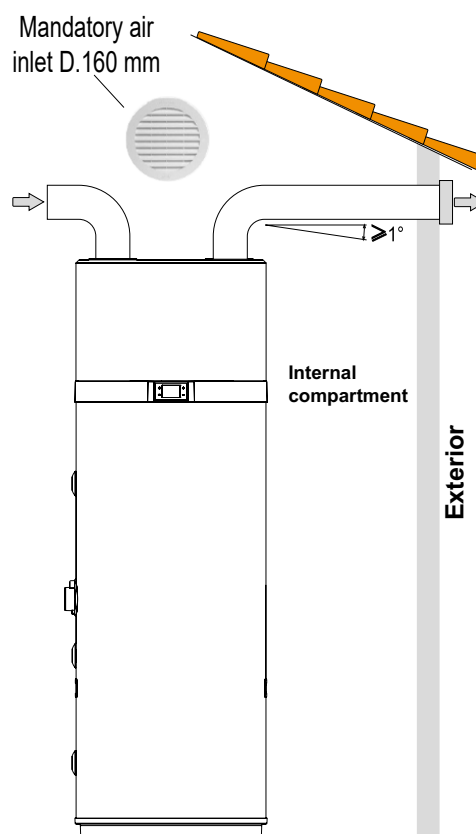

fig. 54- Example of air outlet connection
- Create a dedicated air duct as indicated in fig. 54.